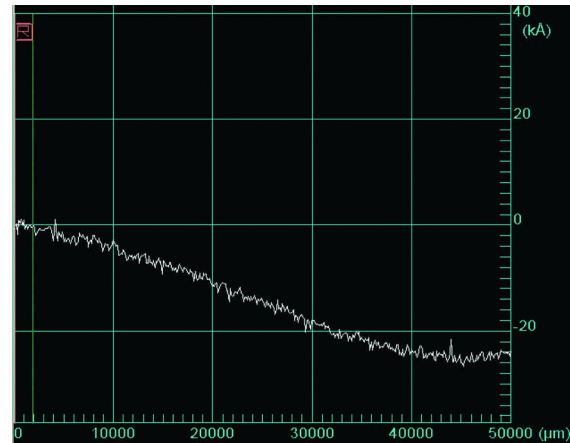

Figure 2. Pre-deposition wafer scan after software leveling.
12. The Dektak software's data leveling algorithm improves measurement accuracy. To invoke it, click and drag the R (Reference) and M (Measurement) cursors to approximately 500 μm from either end of the scan. Choose **Edit>Enter Software Leveling**. Click the Level the Trace icon . The results will appear similar to Figure 2.